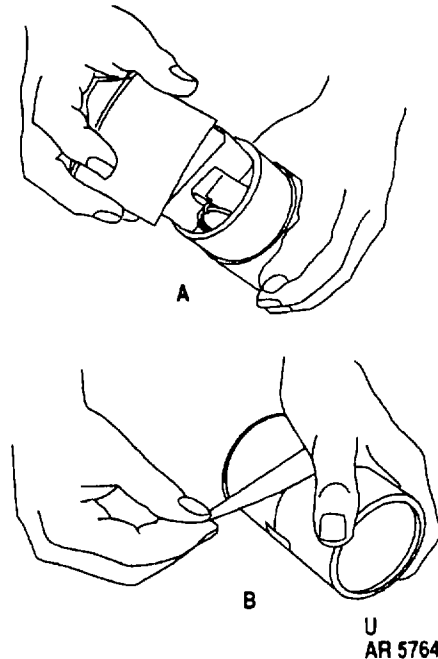

Figure 3-10. Replacement of cover and taping in place.
(1) Place hand grenades, fuze end up, in containers. Place rifle grenades, nose down, in containers.
(2) If packed in fiber containers, seat one filler on bottom. Insert grenade base end down. Place packing support or filler material over grenade. Use as many fillers on top as required to insure tight packing. Replace container lid or cover, and tape in place (fig. 3-10).
(3) Pack containers in original wooden boxes. If these boxes are not available, approximate original box size and shape.